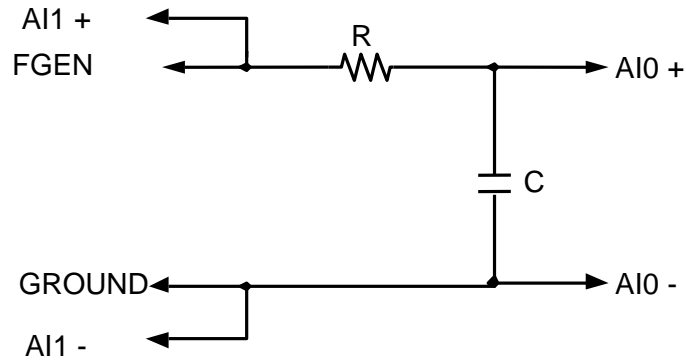

Fig. 11: RC Filter connectivity for AC Characterization.
2. Connect the RC filter circuit on the proto board as shown in figure 11. The input signal for the filter is obtained between 'FGEN' & 'GROUND' pins. The input signal is also connected to Analog Channel-0 (between AI1+/AI1-) and the output signal across the capacitor is connected to Analog Channel-1 (AI0+/AI0-). Connections on the Analog Channels 0 and 1 are used for oscilloscope SFP as further explained in the below steps.
1. Retain the circuit configuration from the previous section. Note that the circuit should be setup as shown in figure 11.